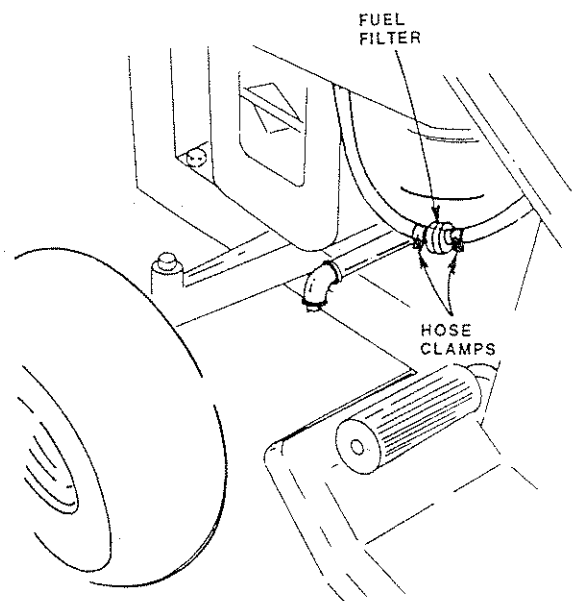

FIGURE 25
- a. With Engine cool, remove Hose Clamps from Fuel Lines at Fuel Filter (Fig. 25)
- b. Remove filter and plug Fuel Line Sections as removed from both ends of Fuel Filter. (Fig. 25)